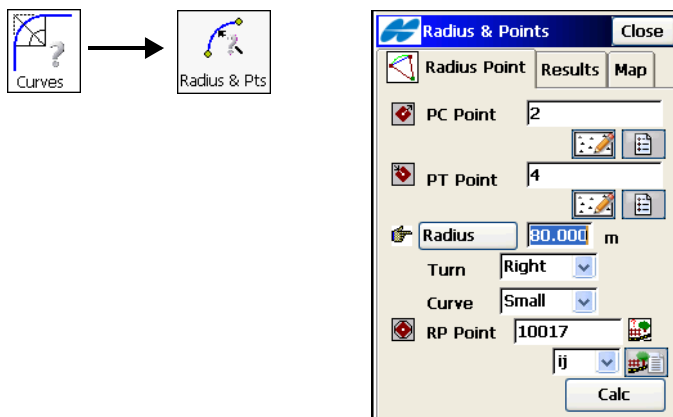

Figure 10-11. Radius &amp; Points
1. On the *Radius and Points* screen (Figure 10-11 on page 10-11), select the initial data for the task: the curve points, the radius parameter, the direction of turn and whether the smaller (less than 180 degrees) or the larger curve (more than 180 degrees) between the curve points is to be considered. Also, enter the resulting RP point name and code.